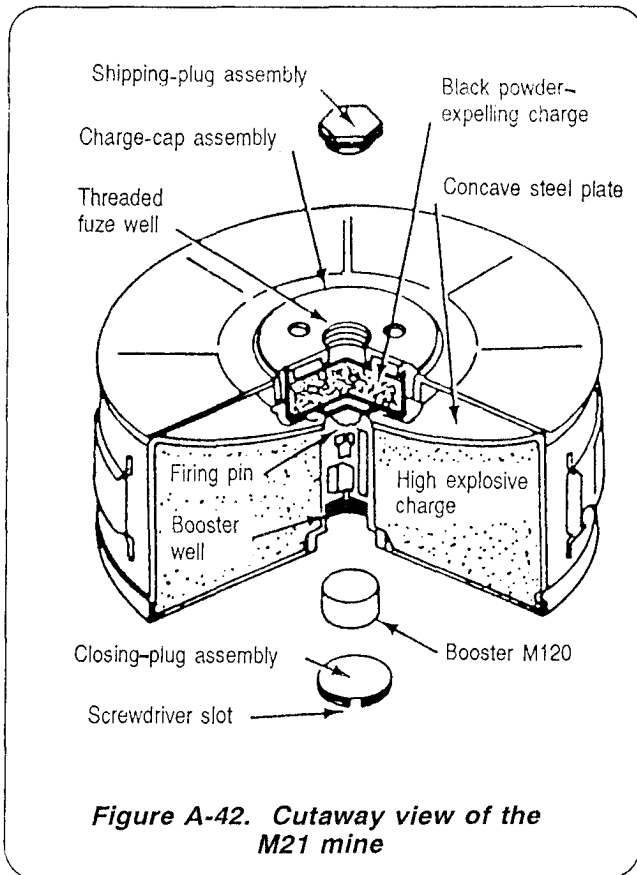

Figure A-42. Cutaway view of the M21 mine
b. Examine the booster well for foreign material. If foreign material is present, gently tap the top of the mine with your hand to dislodge it. If it cannot be removed, replace the closing plug. DO NOT USE IT (Figure A-42).